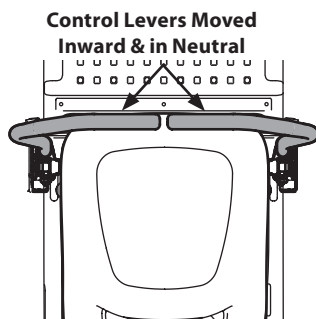

Figure 20
6. Set the lapbar driving control levers fully inward and in the neutral position. Disengage the parking brake when ready to move the tractor (Figure 20).
2. Move the RH and LH lapbar drive control levers inward to the neutral position (Figure 20) and disengage the parking brake.